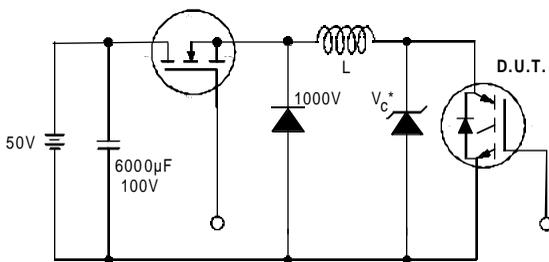

Figure 19. Clamped Inductive Load Test Circuit
- ② $V_{CC}=80\%(V_{CES})$, $V_{GE}=20V$, $L=10\mu H$, $R_G = 100\Omega$ (figure 19)
- ③ Pulse width $\leq 80\mu s$; duty factor $\leq 0.1\%$.
- ④ Pulse width 5.0 μs , single shot.